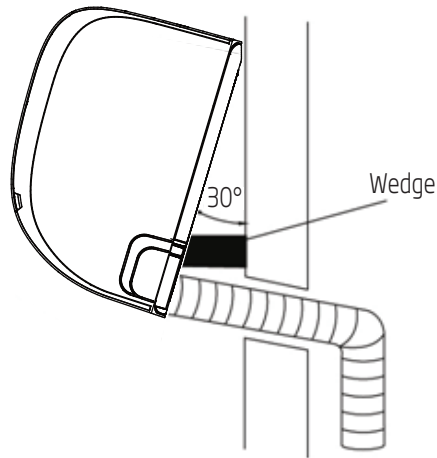

Fig. 5.11
2. Use a bracket or wedge to prop up the unit, giving you enough room to connect the refrigerant piping, signal cable, and drain hose. Refer to Fig. 5.11 for an example.